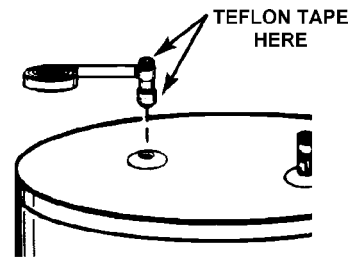

FIGURE 5.
2. Wrap the 3/4" nipples with teflon tape or pipe joint compound and screw into the water heater where it's marked "HOT" and "COLD," see Figure 5. Wrap the other ends of nipples with Teflon tape or pipe joint compound and screw one end of each flexible water connector onto each nipple.
4. Put two or three turns of Teflon tape or pipe joint compound around both the threaded end of the 3/4" x 3" nipples, and using a pipe wrench, tighten the nipples into the "HOT" and "COLD" fittings on the water heater, see Figure 5.